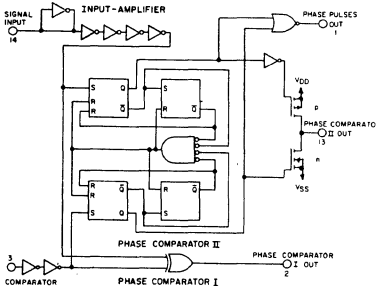
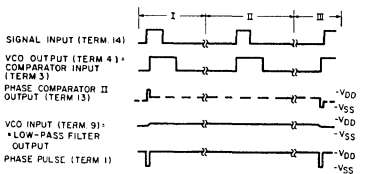
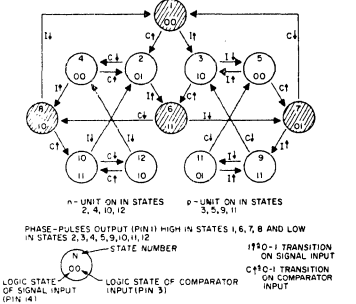

Fig. 3—Schematic of COS/MOS PLL phase-comparator section.
Fig. 6—Typical waveforms for COS/MOS phase-locked loop employing phase-comparator II in locked condition.
Fig. 7—State diagram of phase-comparator II.
Most PLL systems utilize a balanced mixer composed of well-controlled analog amplifiers for the phase-comparator section. Analog amplifiers with well-controlled gain characteristics cannot easily be realized using COS/MOS technology. Hence, the COS/MOS design shown in Fig. 3 employs digital-type phase comparators. Both phase comparators are driven by a common-input amplifier configuration composed of a bias stage and four inverting-amplifier stages. The phase-comparator signal input (terminal 14) can be direct-coupled provided the signal swing is within COS/MOS logic levels [logic 0 \leq 30% (VDD-VSS), logic 1 \geq 70% (VDD-VSS)]. For smaller input signal swings, the signal must be capacitively coupled to the self-biasing amplifier at the signal input to insure an over-driven digital signal into the phase comparators.
Phase-comparator II is an edge-controlled digital memory network. It consists of four flip-flop stages, control gating, and a three-state output circuit comprising p and n drivers having a common output node as shown in Fig. 3. When the p-MOS or n-MOS drivers are ON, they pull the output up to V_{DD} or down to V_{SS} , respectively. This type of phase comparator acts only on the positive edges of the signal and comparator-input signals. The duty cycles of the signal and comparator inputs are not important since positive transitions control the PLL system utilizing this type of comparator. If the signal-input frequency is higher than the comparator-input frequency, the p-MOS output driver is maintained ON continuously. If the signal-input frequency is lower than the comparator-input frequency, the n-MOS output driver is maintained ON continuously. If the signal and comparator-input frequencies are the same, but the signal input lags the comparator input in phase, the n-MOS output driver is maintained ON for a time corresponding to the phase difference. If the signal and comparator-input frequencies are the same, but the signal input leads the comparator input in phase, the p-MOS output driver is maintained ON for time corresponding to the phase difference. Subsequently, the capacitor voltage of the low-pass filter connected to this type of phase comparator is adjusted until the signal and comparator input are equal in both phase and frequency. At this stable operating point, both p- and n-MOS output drivers remain OFF, and thus the phase-comparator output becomes an open circuit and holds the voltage on the capacitor of the low-pass filter constant. Moreover, the signal at the "phase pulses" output is at a high level, and can be used for indicating a locked condition. Thus, for phase-comparator II, no phase difference exists between signal and comparator input over the full VCO frequency range. Moreover, the power dissipation due to the low-pass filter is reduced when this type of phase comparator is used because both the p- and n-MOS output drivers are OFF for most of the signal-input cycle. It should be noted that the PLL lock range for this type of phase comparator is equal to the capture range, independent of the low-pass filter. With no signal present at the signal input, the VCO is adjusted to its lowest frequency for phase-comparator II. Fig. 6 shows typical waveforms for a COS/MOS PLL employing phase-comparator II in a locked condition.
Fig. 7 shows the state diagram for phase-comparator II; each circle represents a state of the comparator. The number at the top inside each circle represents the state of the comparator, while the logic state of the signal and comparator inputs, represented by a 0 or a 1, are given by the left and right numbers, respectively, at the bottom of each circle. The transitions from one state to another result from either a logic change on the signal input (I) or the comparator input (C). A positive transition and a negative transition are shown by an arrow pointing up or down, respectively. The state diagram assumes that only one transition on either the signal input or the comparator input occurs at any instant. States 3, 5, 9, and 11 represent the condition at the output of phase-comparator II when the p-MOS driver is ON, while states 2, 4, 10, and 12 determine the condition when the n-MOS driver is ON. States 1, 6, 7, and 8 represent the condition when the output of phase-comparator II is in its high impedance state; i.e., both p- and n-devices are OFF, and the phase-pulses output (terminal 1) is high. The condition at the phase-pulses output for all other states is low.
As an example of how one may use the state diagram shown in Fig. 7, consider the operation of phase-comparator II in the locked condition shown in Fig. 6. The waveforms shown in Fig. 6 are broken up into three sections: section I corresponds to the condition in which the signal input leads the comparator input in phase, while section II corresponds to a finite phase difference. Section III depicts the condition when the comparator input leads the signal input in phase. These three sections all correspond to a locked condition for the COS/MOS PLL; i.e., both signal- and comparator-input signals are of the same frequency but differ slightly in phase. Assume that both the signal inputs begin in the 0 state, and that phase-comparator II is initially in its high-impedance output condition (state 1), as shown in Figs. 7 and 6, respectively. The signal input makes a positive transition